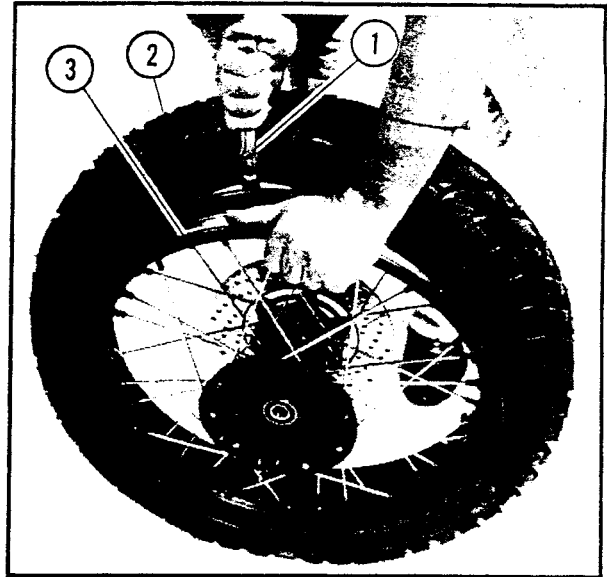

Figure 5-70. Removing Tire
12. See Figure 5-70. Turn wheel over. Using a tire iron (1), pry tire (2) over wheel rim (3) and remove tire. If necessary, tire sidewall may be struck with a soft-headed mallet to assist removal.